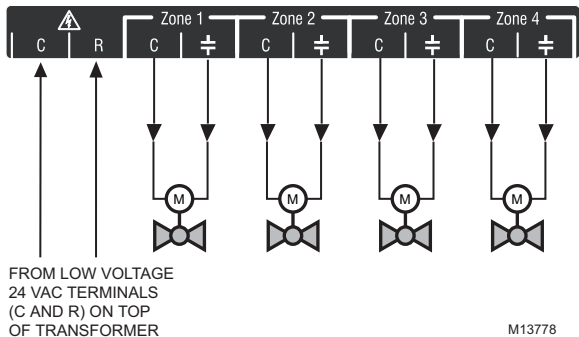

Fig. 9b. Wiring an AQ1554P2 Zoning Module for use with low voltage Zone Valves WITHOUT end switches.
- b. For low voltage zone valves without end switches (Figure 9b), run jumper wires from the R and C terminals on the top left of the Control Panel's transformer through the wiring channel across the top of the Control Panel, down through the wiring channel on the right side of the panel and over to the R and C terminals on the bottom of the Zoning Module.